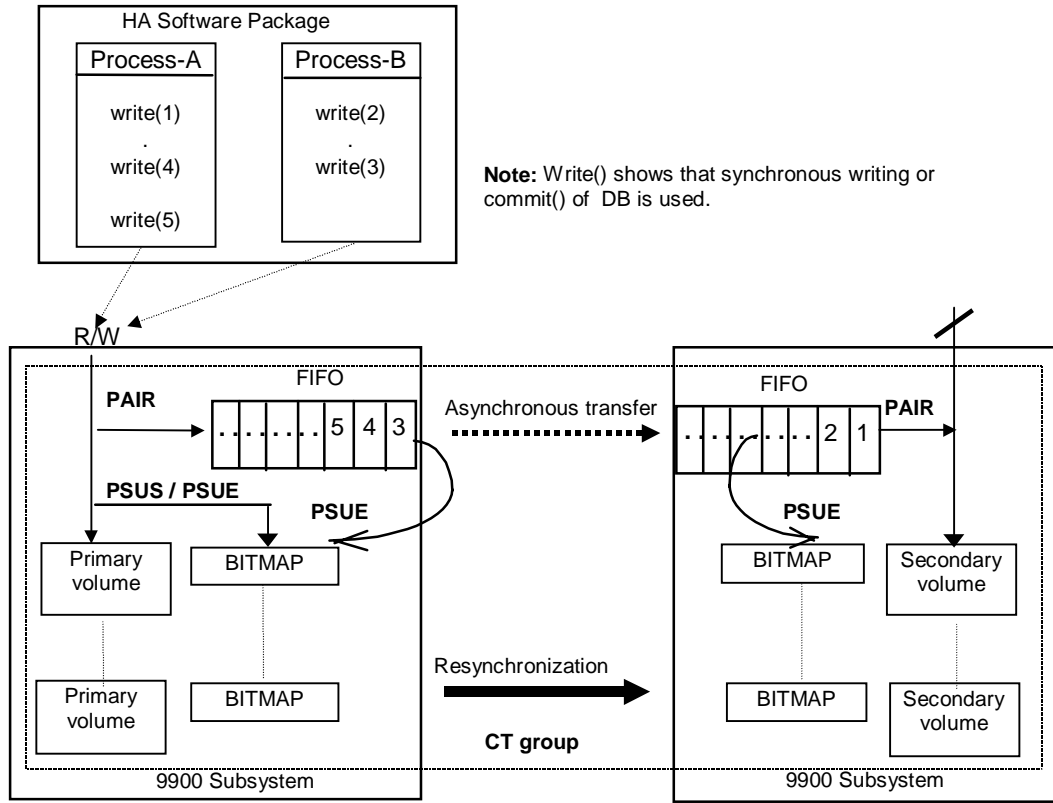

Figure 2.9 HORC Asynchronous Consistency Groups
HORC Asynchronous (HORCA) provides paired volumes which utilize asynchronous transfer to ensure the sequence of writing data between the primary volume and secondary volume. The sequence of writing data between the primary and secondary volumes is guaranteed within each consistency (CT) group (see Figure 2.9). A CT group is created by paircreate command as the group that corresponds to the configuration definition file. The maximum number of CT groups is 64 for 9900 (CTGID0 to CTGID63) and 16 for 7700E (CTGID0 to CTGID15), and the volumes in a group must all be contained within the same 9900 or 7700E subsystem. HORC Asynchronous pair command will be terminated with EX_ENOCTG when the maximum number of CT groups is exceeded.